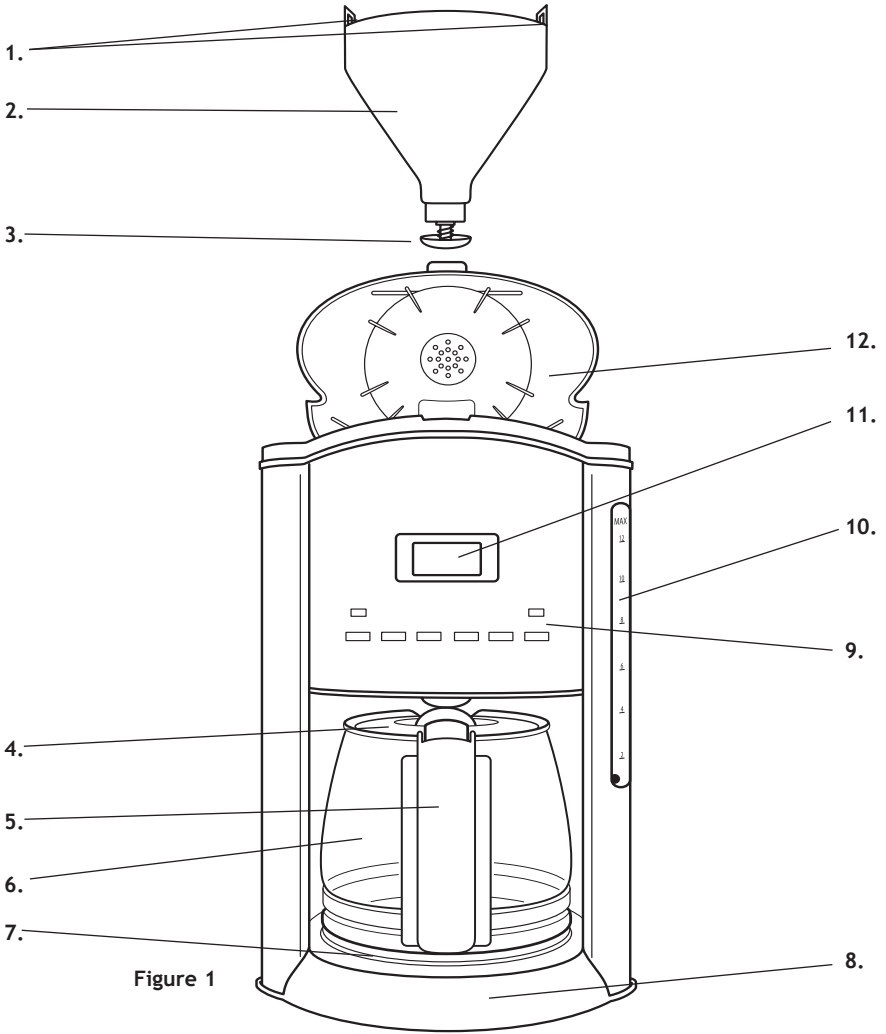

Figure 1
2. Open the Lid by using the lip located on top of the Coffeemaker. (See Figure 1).